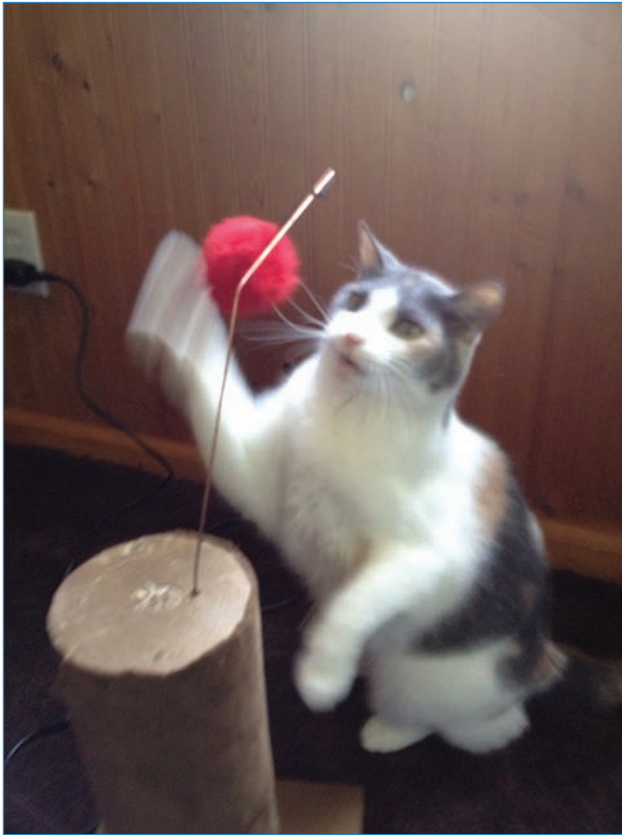

FIGURE 9.24 Kitties like it!
16. Find a cat to amuse (see Figure 9.24).